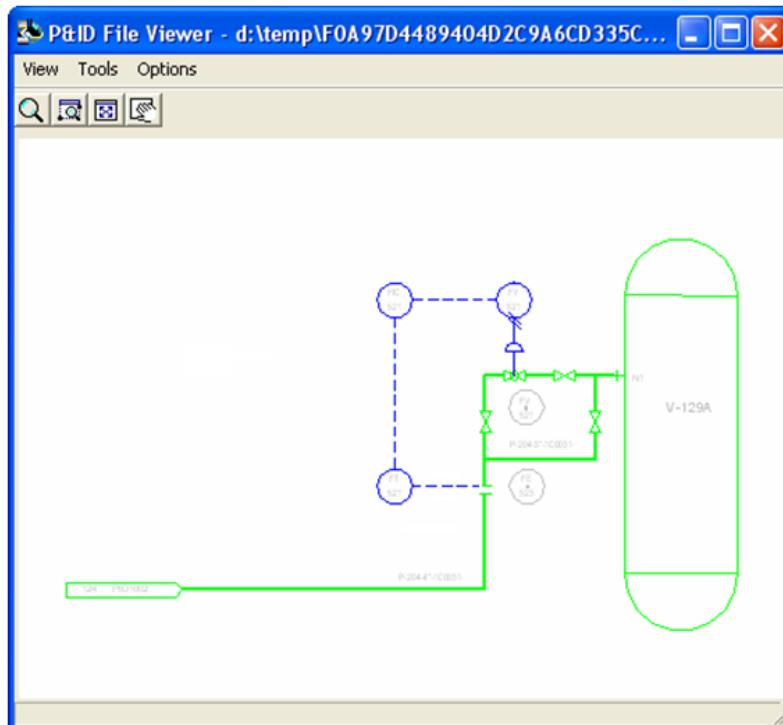

Figure 7. 58: Correlation status of the placed pipe section in the P&ID File Viewer Window
42. Now, open the **P&ID PID1001 drawing**. The pipe section you placed is highlighted in green, as shown in Figure 7. 58, which indicates that the pipe section and the OPC are correlated now and its properties and topology matches the design basis.